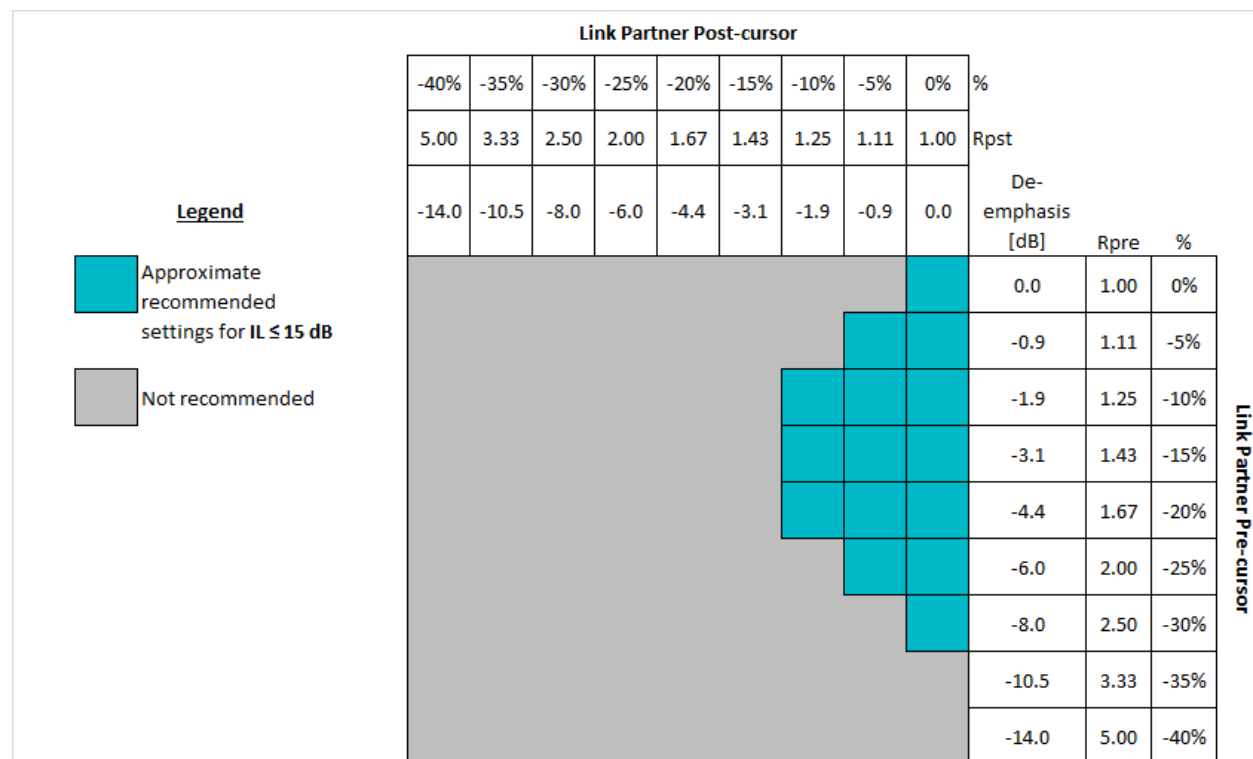
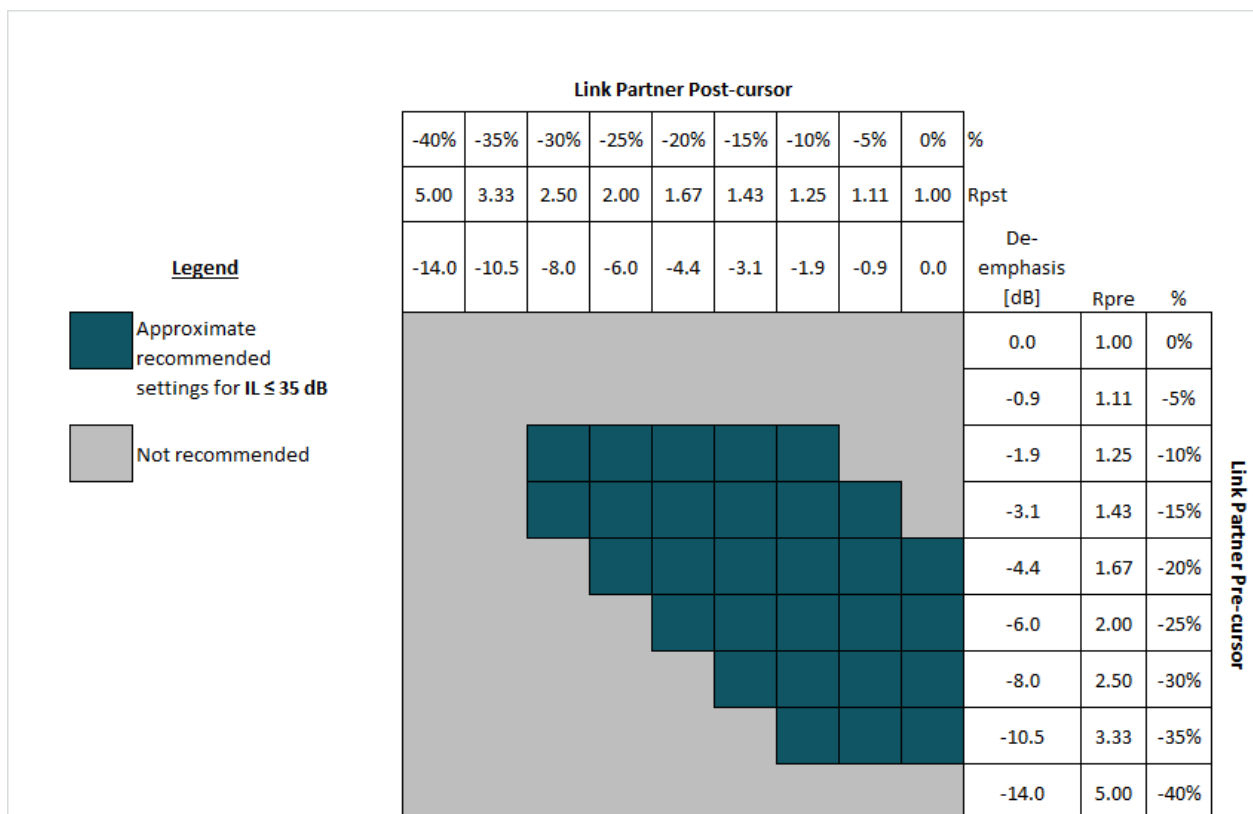

Figure 8-5. Guideline for Link Partner FIR Settings When $IL \leq 15$ dB
Figure 8-7. Guideline for Link Partner FIR Settings When IL ≤ 35 dB
The recommended pre-cursor and post-cursor settings for a given channel will depend on the channel characteristics (mainly insertion loss) as well as the equalization capabilities of the downstream receiver. The DS250DF230 receiver, with its highly-capable CTLE and DFE, does not require a significant amount of pre- or post-cursor. The guidelines in Figure 8-5 through Figure 8-7 give general recommendations for pre- and post-cursor for different channel loss conditions. The insertion loss (IL) in these plots refers to the total loss between the link partner transmitter and the DS250DF230 receiver.